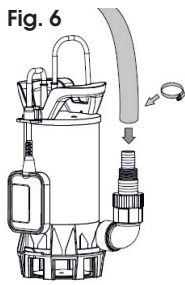

Fig. 6
- ✿ To connect a non-threaded hose with a diameter of 1" (25mm) or 1-1/4" (32mm), slide it onto a hose shank and secure with a hose tie, see Fig. 6.